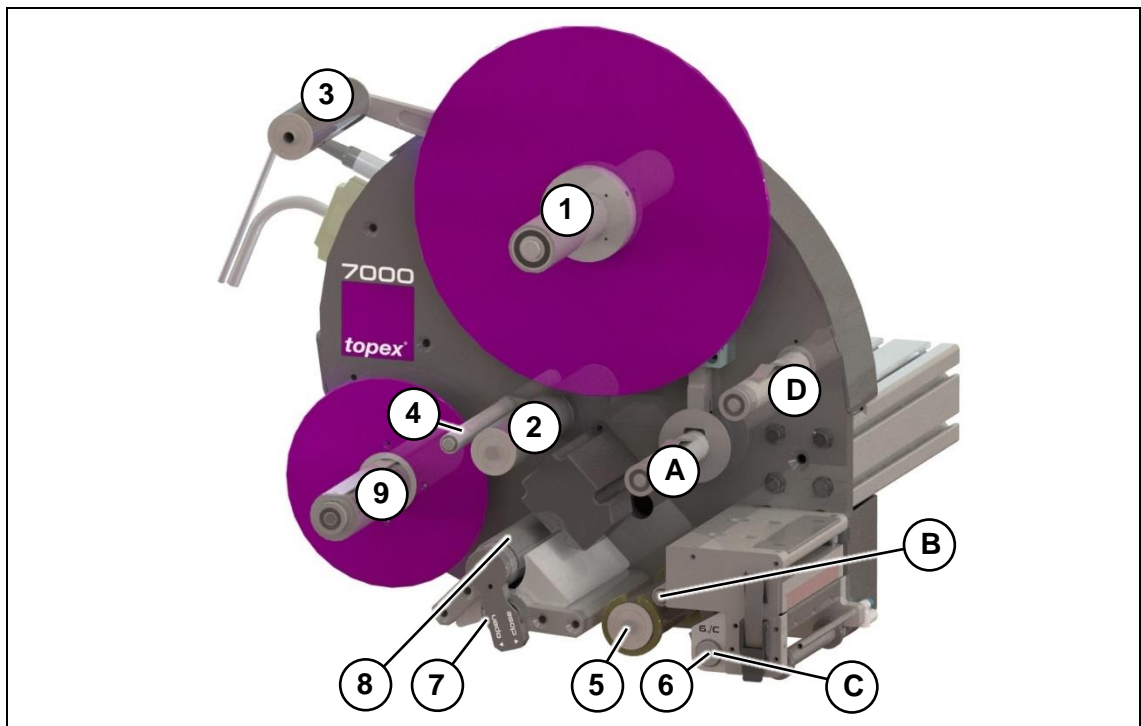
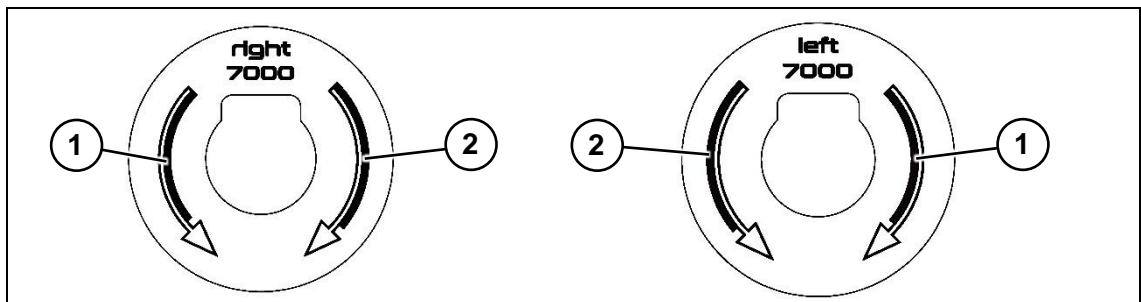
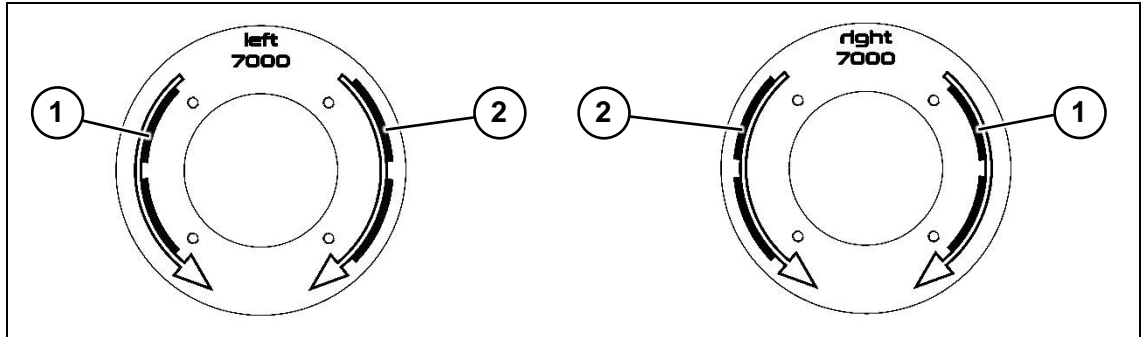

Figure 14 Labelling the rolls
Figure 15 Stop ring for the transfer film (right / left)
Figure 16 Core support for the label roll (right / left)
The take-up and unwinding rolls of the transfer film (Figure 14, items A and D) are fitted with stop rings. The stop ring of roll A is labelled with the corresponding running direction and version (wound inwards - Figure 15, pos. 1 or wound outwards - Figure 15, pos. 2) see threading sketch enclosed with this documentation.
Unwinding (Figure 14, pos. 1) of the label roll is provided with a core support. This is labelled with the corresponding running direction and version. (wound inwards - Figure 16, pos. 1 or externally wound - Figure 16, pos. 2)
- 4 Pull the label tape forward to the liner take-up according to the threading sketch. Please note the roll numbering (see Figure 14)
- 5 Insert the new transfer film according to the threading sketch. Observe the labelling of the rolls from A-D (see Figure 14) and the labelling on the stop ring (see Figure 15).